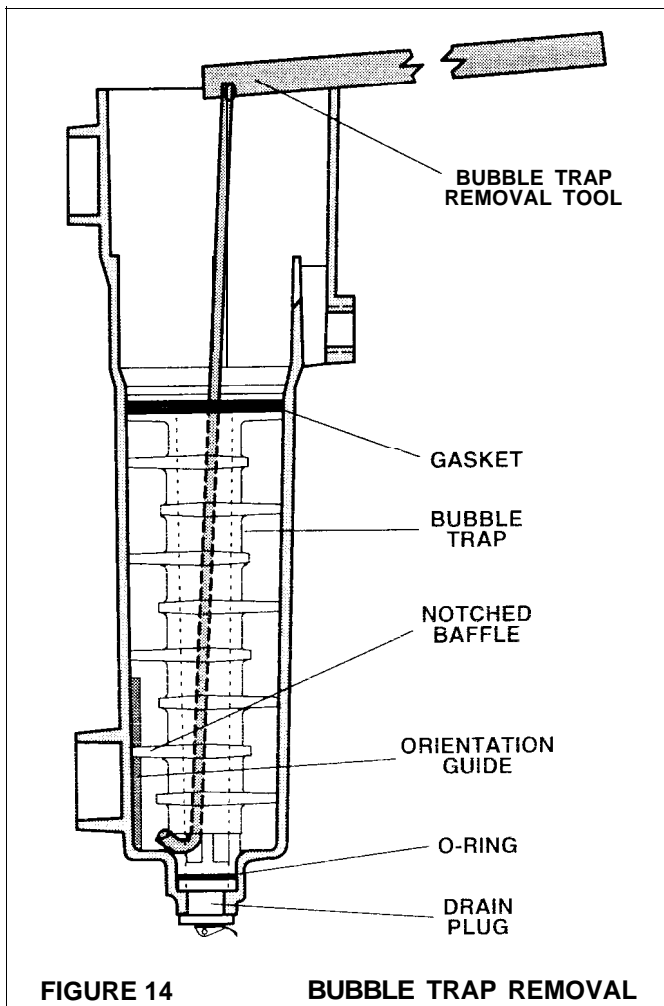

FIGURE 14 BUBBLE TRAP REMOVAL
4. Use the removal tool as shown in *Figure 14*. With the handle of the tool toward the front of the turbidimeter body, hook the bottom of the bubble trap and pry down on the handle until the bubble trap is loose. Unhook the tool and lift the bubble trap from the body.